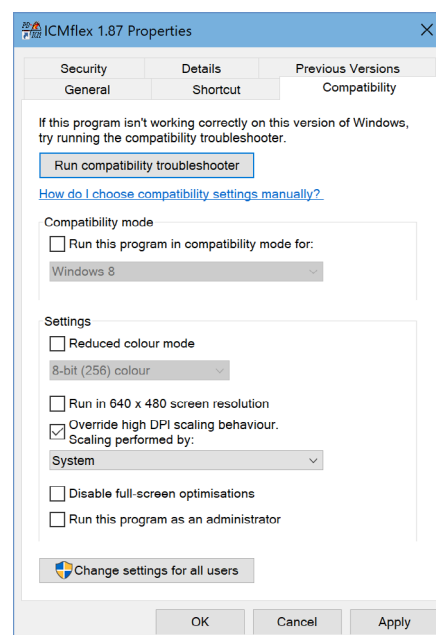

Figure 76: Properties window
2. Choose "Properties" from the context menu, which will open the "Properties" window (Figure 76).